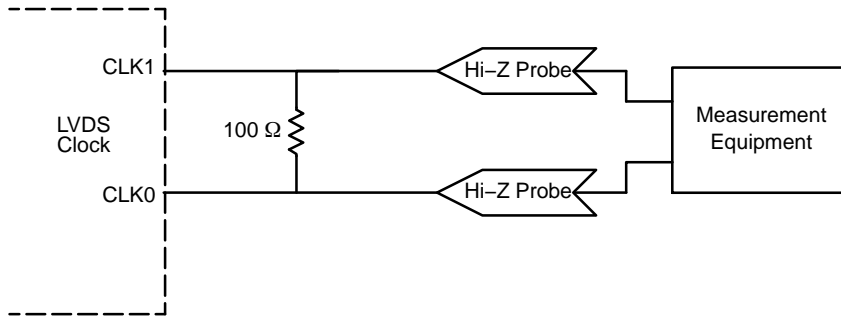

Figure 9. LV DS Parameter Measurement
11. LVDS outputs require 100 Ω receiver termination resistor between differential pair. See Figure 9.